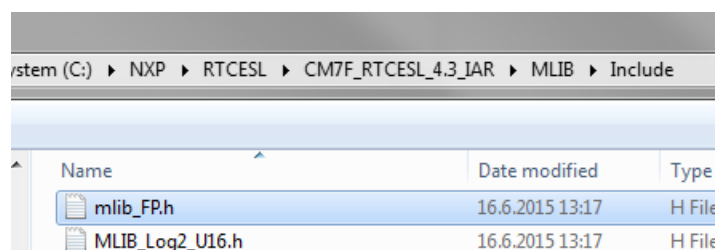

Figure 1-45. Add Files dialog
5. Navigate into the library installation folder C:\NXP\RTCESL\CM7F_RTCESL_4.6_IAR\MLIB\Include, and select the *mllib_FP.h* file. (If the file does not appear, set the file-type filter to Source Files.) Click Open. See Figure 1-45.